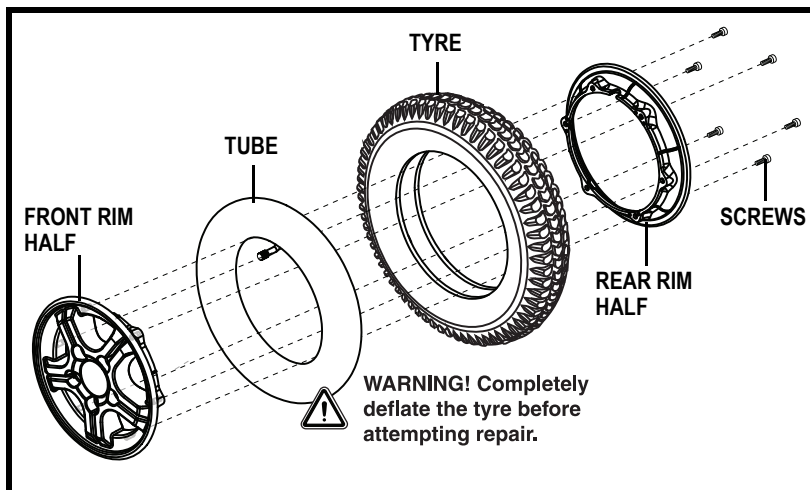

Figure 26. Quantum 600 Sport HD Drive Wheel Disassembled
6. Remove the screws and separate the front and rear rim. See figure 26.
10. Reinstall the five (5) lug nuts onto the wheel hub and tighten.